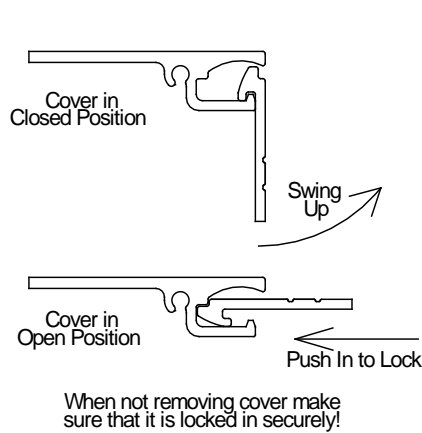

Figure 2
2. Remove two screws from the bottom of the cover. Remove the cover. (See Figure 2) Remove parts box from header and set aside.